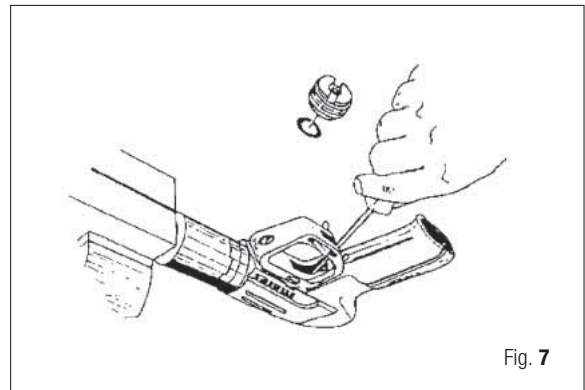

Fig. 7
21. Remove the safety (49) by sliding it out of the handle (41).
22. Remove connecting plunger (45) with special tool A-13 (Ø 3 mm) or needle nose pliers.
23. For Competition Line Spearguns starting from serial number 92296000 forward, remove connecting plunger bushing (47) using tool A22 (Fig. 7).